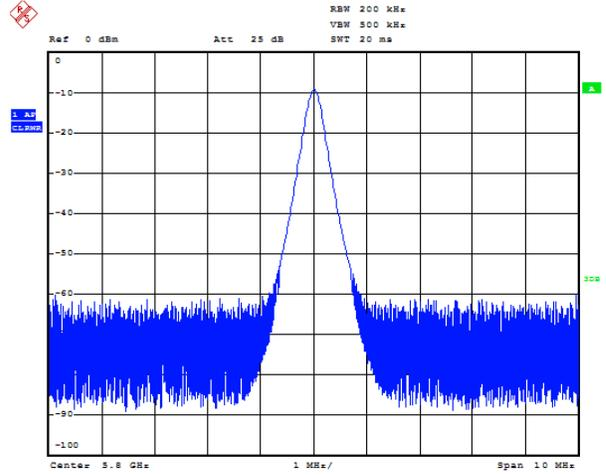

Figure 19. Spectrum Analyzer Display
9. In the **Main Controls** tab in the main window of the evaluation board software, set the VCO center frequency in the **RF VCO Output Frequency** text box (the example in Figure 19 uses a 5800 MHz VCO). Set the **PFD Frequency** text box to 10 MHz, and program the **Reference Frequency** value to equal 10 MHz. The current listed in the **Charge Pump Setting** text box should equal 0.31 mA. See Figure 20 for the suggested setup.
10. Measure the output spectrum. Figure 19 shows a 5800 MHz output.